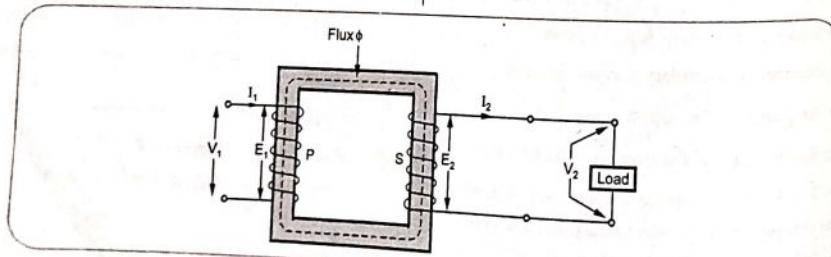

Fig. 5.5.2 Ratios of transformer
• Consider a transformer shown in Fig. 5.5.2 indicating various voltages and currents.